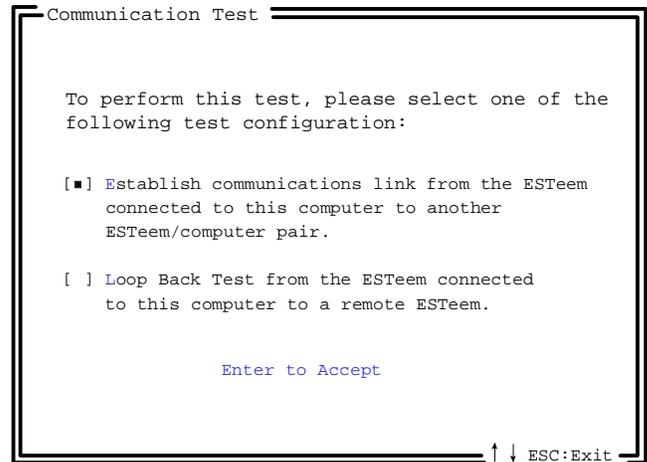

Figure 6: Communications Test Window
13. Press Test Communication Between ESTeems. This section will allow you to test the radio frequency (RF) communications between two or more ESTeems. Two types of tests are listed in this window (Figure 6). If you have a computer attached to both ESTeems proceed to step 14 and if you only have one computer to test both ESTeems proceed to step 15.